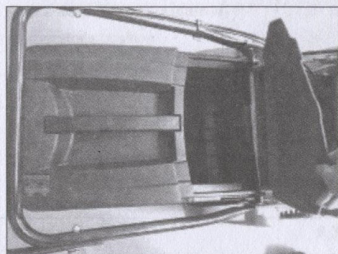
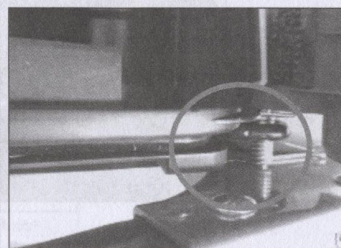
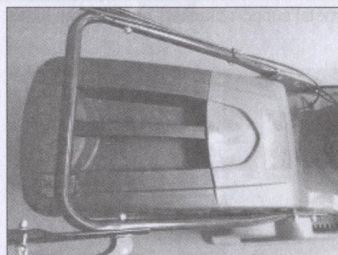

Fig. 2F
Fig. 2G
Fig. 2H
1. To fit: raise the rear cover and hitch the grass catcher on rear of mower. (Fig. 2F, Fig.2G, Fig. 2H)